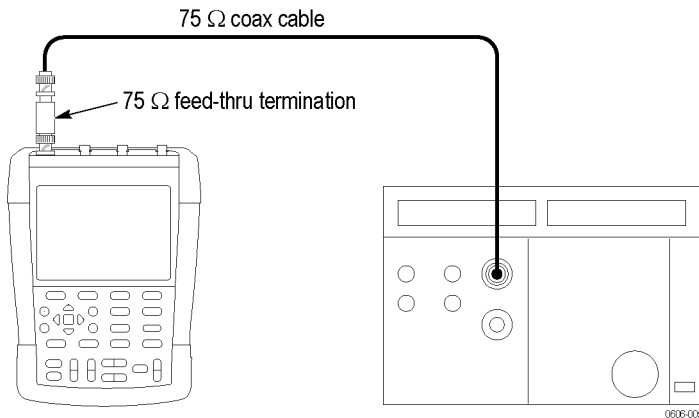

Figure 8: Video trigger test setup
1. Connect the test setup as shown. (See Figure 8.)